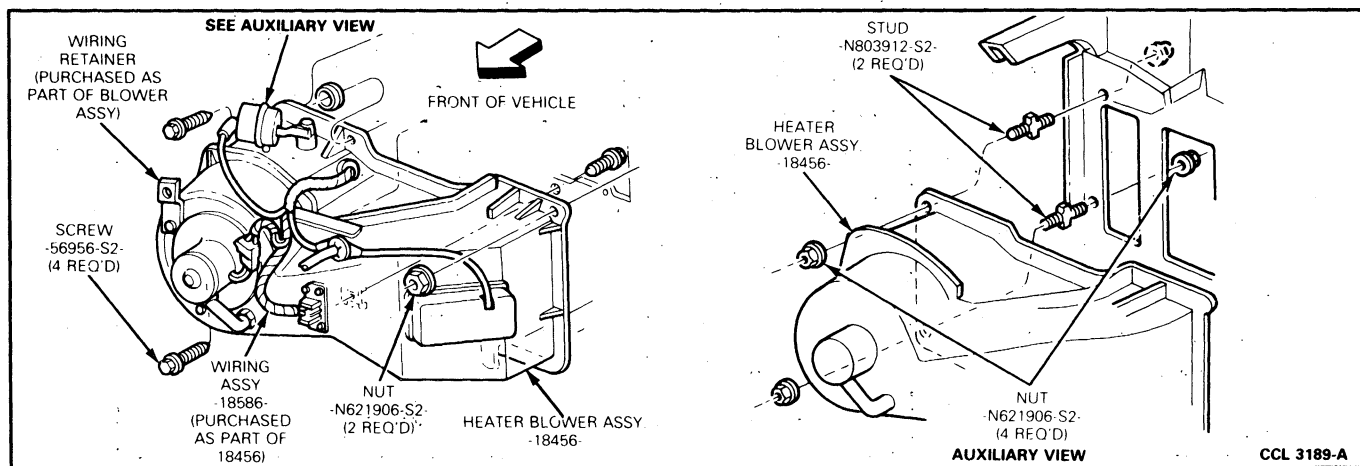

FIG. 13 Heater Blower Assembly
5. Remove three attaching nuts from the heater blower assembly (Fig. 13).